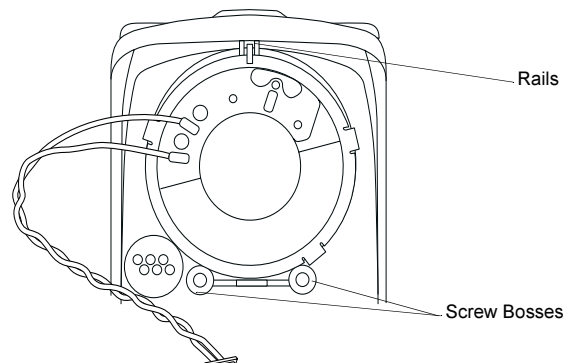

Figure 2-9 Speaker Assembly
1. Align the speaker as shown in Figure 2.9.